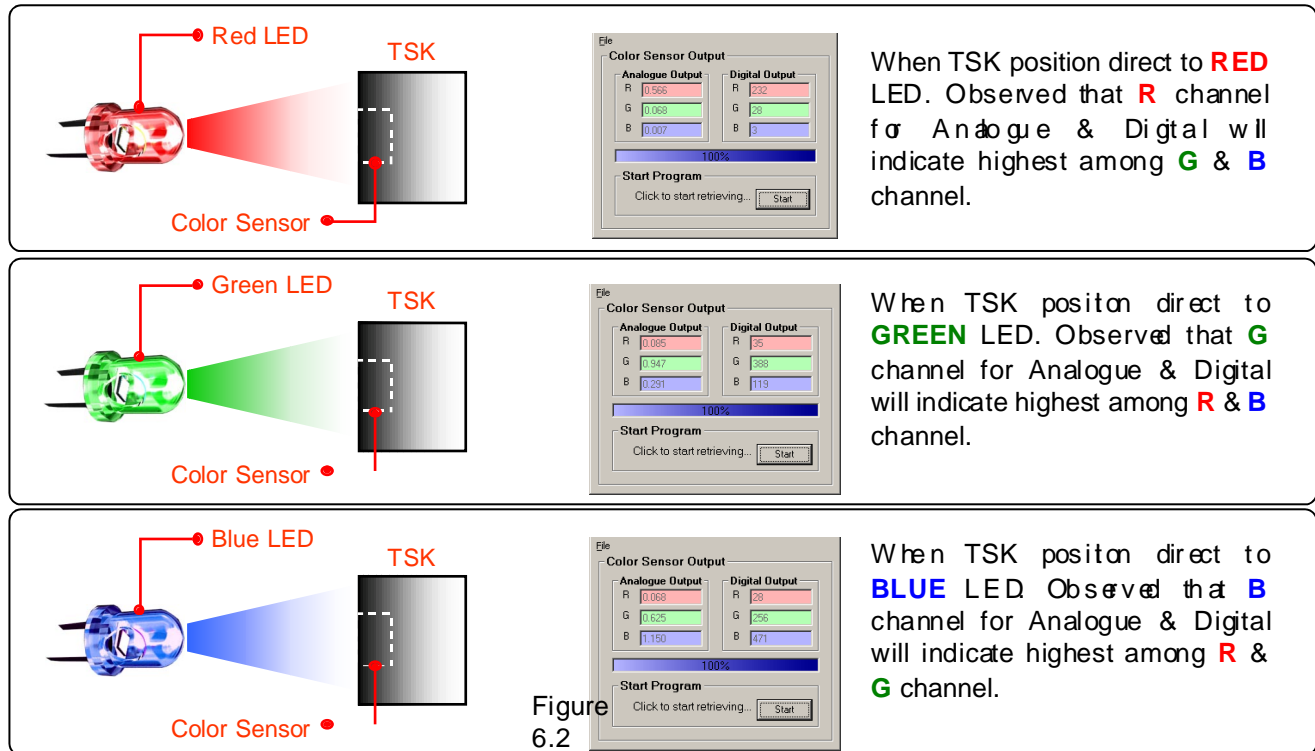

Figure 6.2
- Position Transmissive Sensing Kit (TSK) on assigned color LED as shown in Figure 6.2.